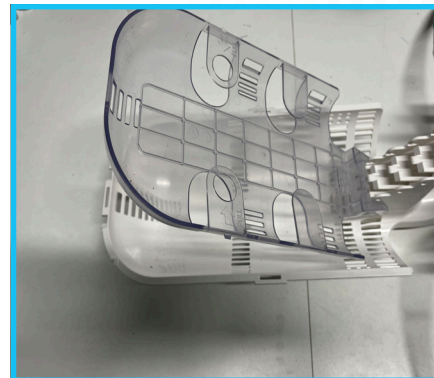

Figure 9.1
1. The APEX X2 is supplied with a clear plastic inner basket, this is not utilised for this installation. All fibre must be stored in the lower basket only. The inner basket can be listed by squeezing the release tabs **[figure 9.1]**.